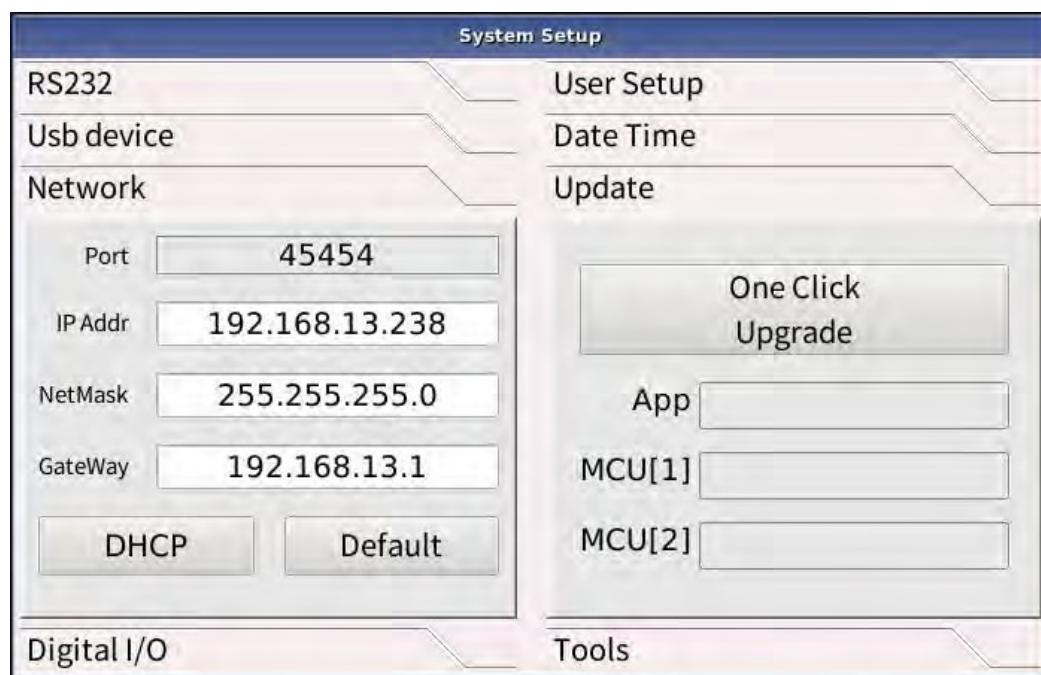

Figure 4-28 System Setup Page 3
**Operation:** (see Figure 4-28)
**Operation:** (See Figure 4-28) Touch screen and click on One ClickUpgrade to upgrade with one click.